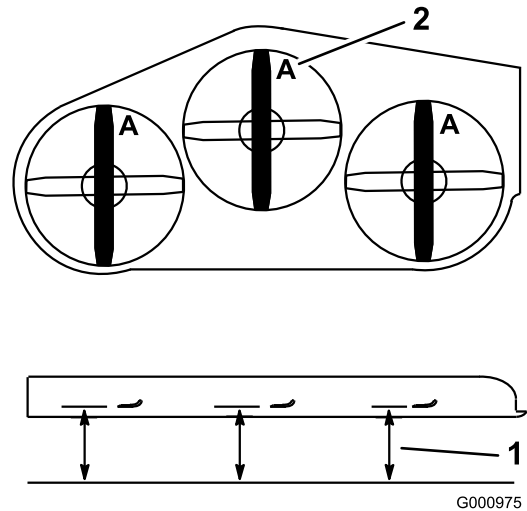

Figure 76
3. Rotate the blades until the ends face forward and backward. Measure from a level surface to the cutting edge, position A, of the blades (Figure 76). Note this dimension.